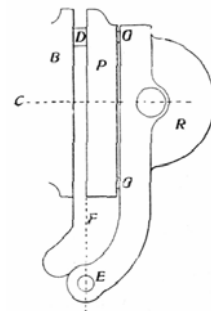

FIG. 4
By using the compound toggle we are enabled to make all movements of a positive character, with no suggestion of a cam or sliding bearing surface. Every moving part works from a stationary center in the frame. The platen in its movement, describes part of an arc of a circle, and its center (E. Fig. 4) located just below the bed, sustains none of the friction generated by such an immense impressional power. In fact it is free from the weight of the platen and rocker – they being balanced by springs – simply acting as a center to keep the parts in their proper place. Besides this, it is necessary that the impression shall be positively unyielding at all points to allow forms to be worked out of centre without slurring.
The studs (E. Fig. 4) being placed in strongly reinforced portions of the frame and in a direct line with the printing surface (F), combined with the platen bearings (G) being located at the extreme outer edge of rocker, there can be nothing but a direct compression exerted at all points, with no tendency to slur, even if the form was at the extreme top of chase (D).